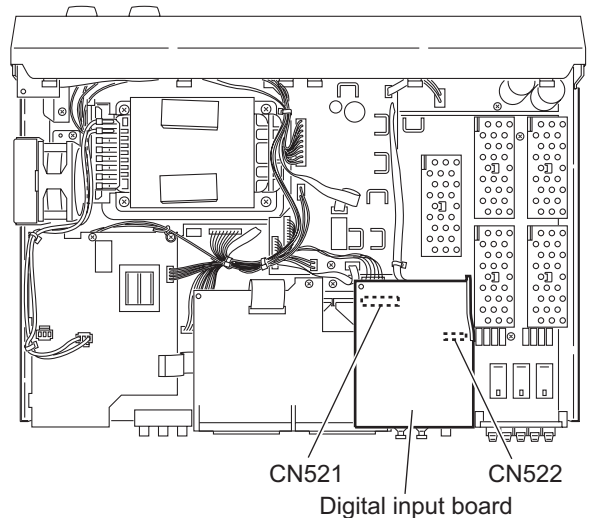

Fig.8
3.1.5 Removing the digital input board (See Fig.8)